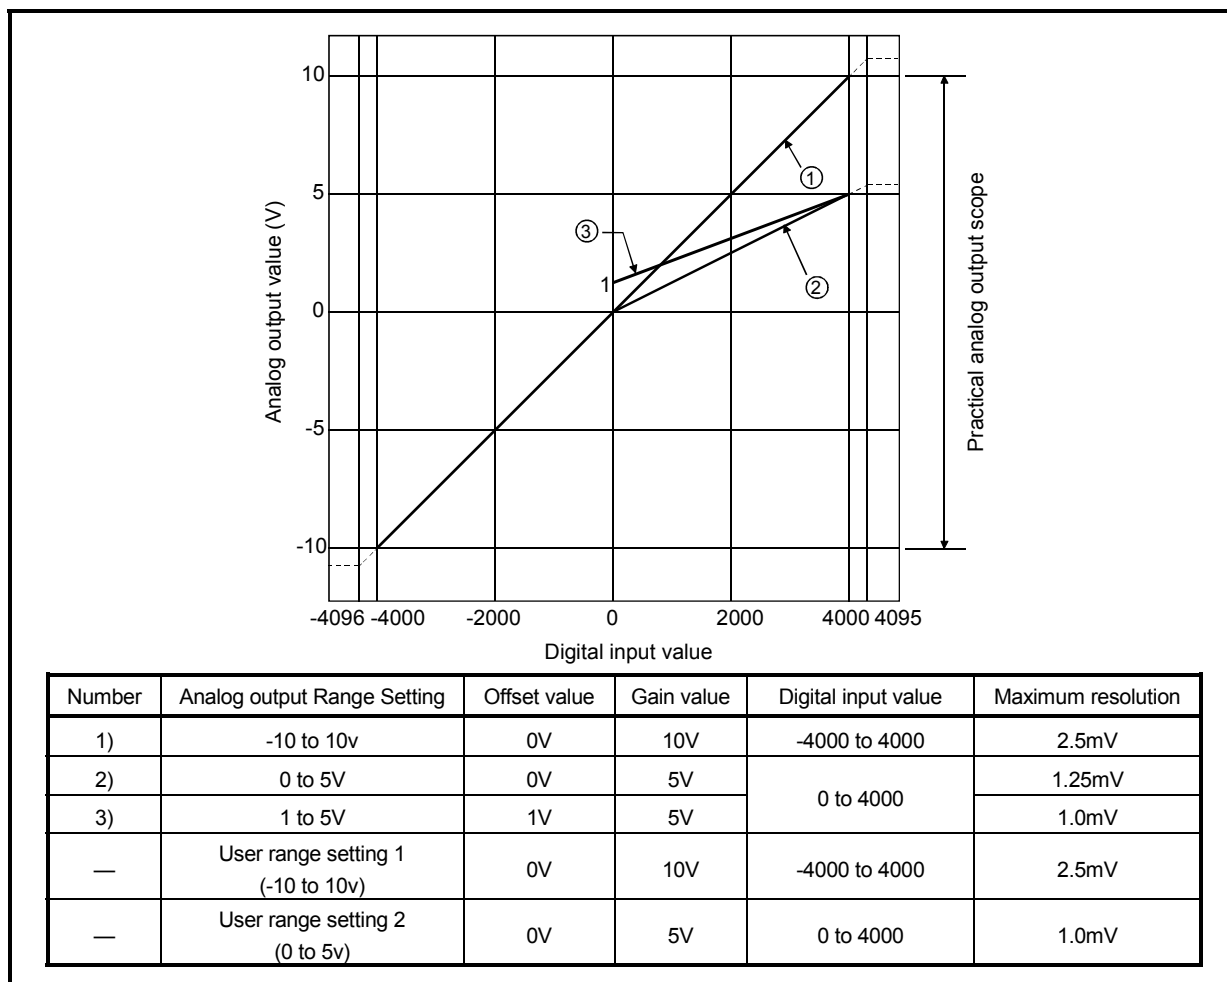

Fig. 3.1 Voltage Output Characteristic
- (1) Within the digital input and analog output scopes of each output range, the maximum resolution and accuracy are within the performance specification range. Outside those scopes, however, they may not fall within the performance specification range. (Avoid using the dotted line part in Fig. 3.1.)
- (2) Set the offset and gain values of the user range setting within the range satisfying the following conditions.